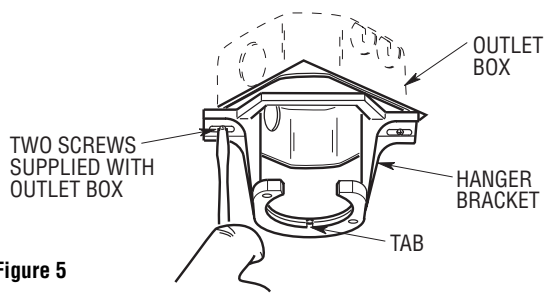

Figure 5
- 8. Securely attach the hanger bracket to the outlet box using the two screws supplied with the outlet box (Figure 5).
- 10. Carefully lift the fan and seat the hanger ball/downrod assembly on the hanger bracket that was just attached to the outlet box (Figure 7). Be sure the groove in the ball is lined up with the tab on the hanger bracket (Figure 5).